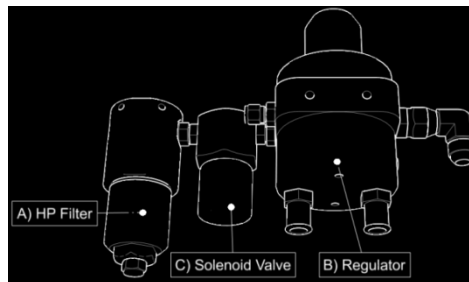

Figure 24 HP Filter, Solenoid, Regulator Subassembly
15. At this point, the system has been properly pressure tested up to the primary solenoid lock-off valve (item C in Figure 24). To test the connections down-stream of the solenoid valve, apply a 24 volt power supply to open the valve. This will allow nitrogen to flow through the rest of the system and up to the secondary solenoid shutoff valve at the engine. Conduct a leak test using a leak detection solution at all connections downstream of the fuel outlet (low pressure) line, item 6 in Figure 9.
9. The system is now fully depressurized up to the primary solenoid lock-off valve (item C in Figure 24). There may be pressure remaining downstream of the solenoid valve. Be careful when loosening fittings for the first time because a small amount of gas may leak out of any fitting downstream of the solenoid lock-off valve, which is normal.
Refer to Figure 24 for reference.